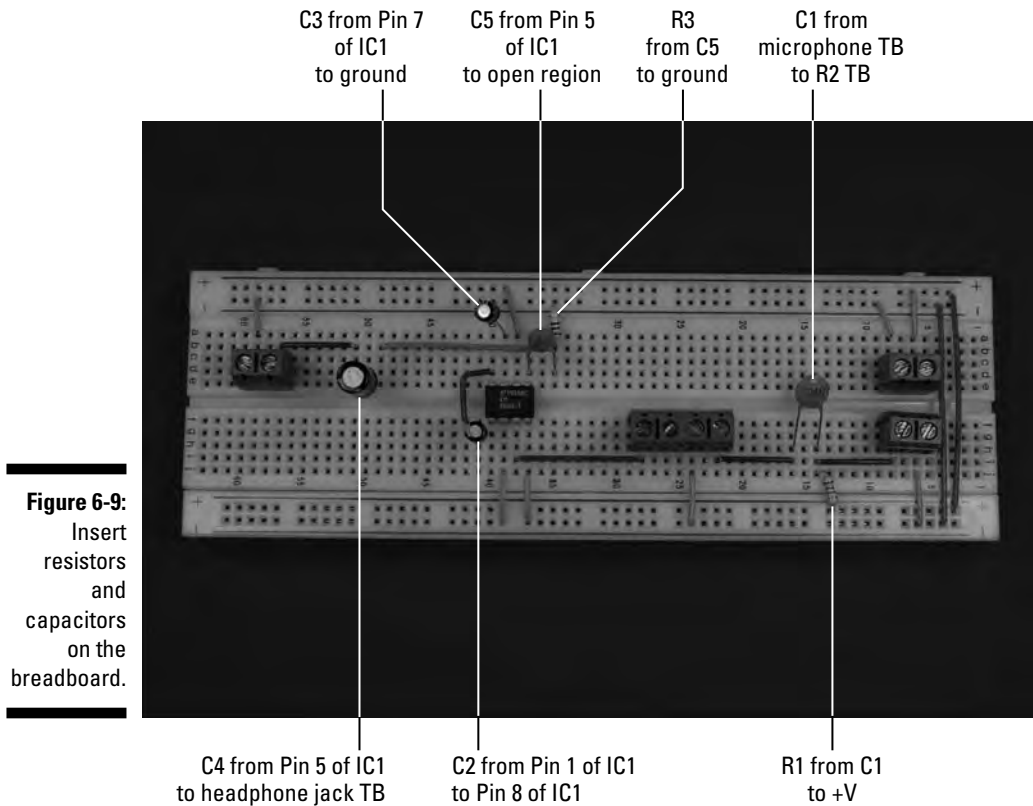

Figure 6-9:
5. Insert the 0.047 microfarad capacitor (C5), two 10 microfarad capacitors (C2 and C3), one 100 microfarad capacitor (C4), one 0.1 microfarad capacitor (C1), one 5.6 kohm resistor (R1), and one 10 ohm resistor (R3) on the breadboard, as shown in Figure 6-9.